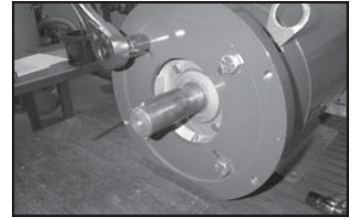

figure 12
1. Using a 9/16" socket, remove the (4) 3/8" hex head cap screws (item 16) between the motor adapter (item 9) and motor flange (item 10). Remove the motor adapter by slipping it over the drive hub (item 8).
2. Using a 3/16" "T" handled Allen wrench, loosen the (2) 3/8" setscrews (item 8A) in the drive hub (item 8) and slip the drive hub off motor shaft.
3. Remove the (4) fasteners between motor flange and the motor and remove motor flange from motor (see figure 12).